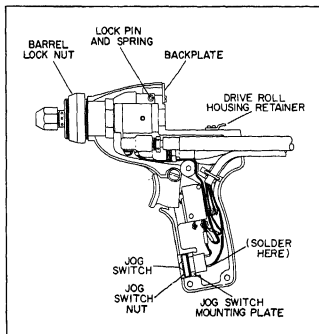

Figure 3. Installing Jog Button
**NOTE:** The Model AHF-E1 Feeder includes a jog switch which may be installed in the Gun handle as follows (Fig. 3):